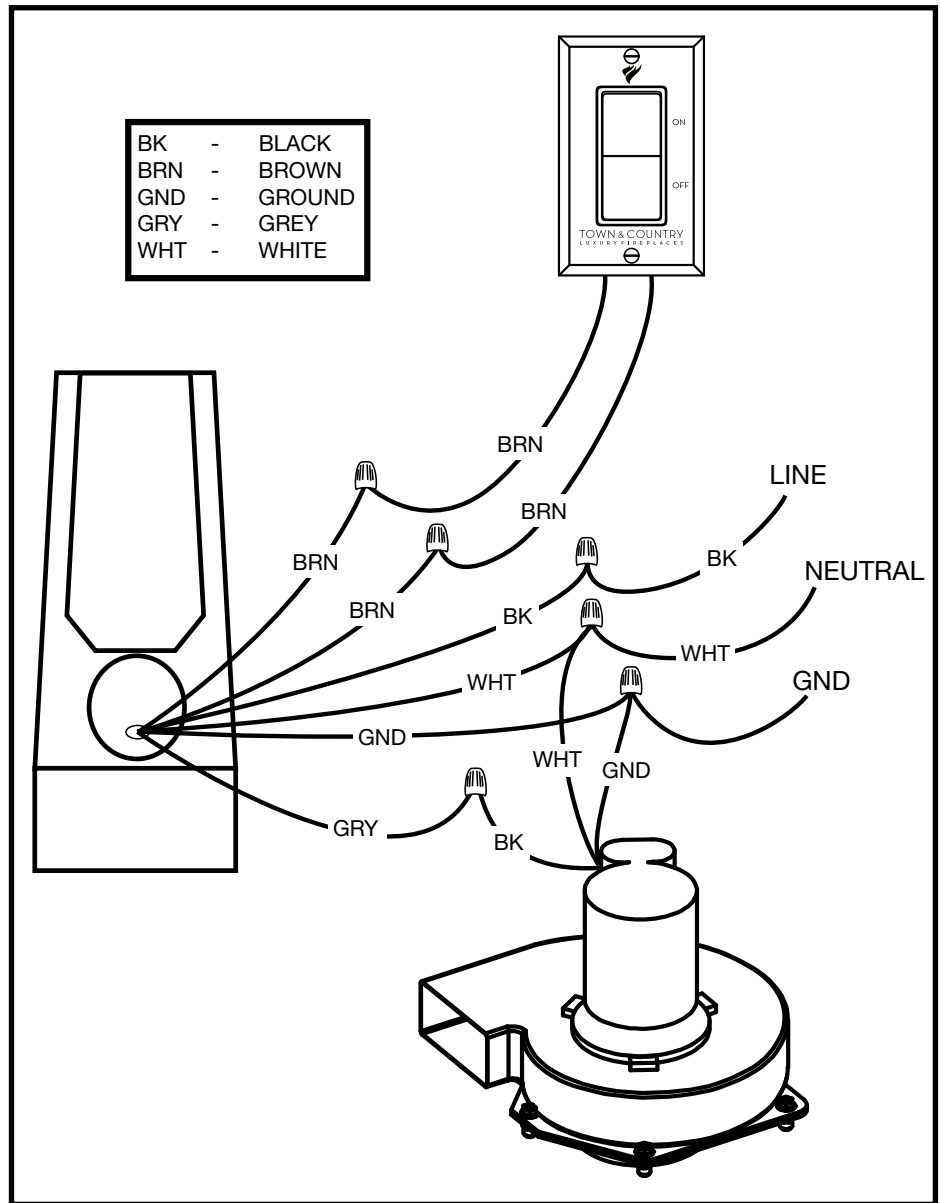

Figure 46: Wiring instructions.
- Connect electrical power supply to the black and white wires inside the electrical connections compartment as shown in Figure 46.
- Connect the ground wire to the green wire inside the compartment (Figure 46).